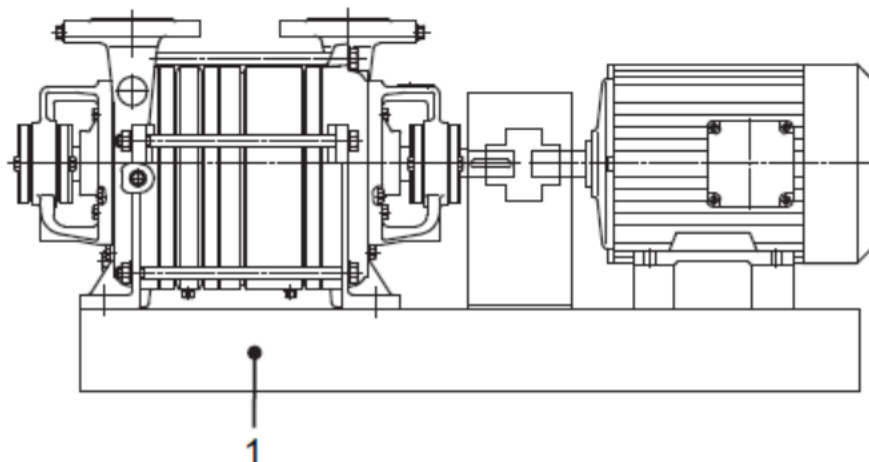

Fig. 7 Set-up on level surface/frame
1. Mount the motor feet as illustrated. Please see Fig. 7 for setup on level surface.